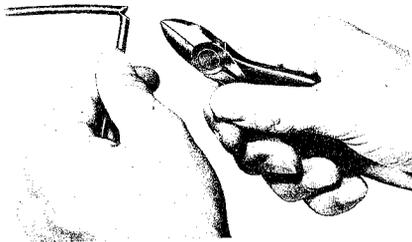

Fig. 5 — Skinning Jacketed Wire
**4. SKINNING CONDUCTORS (STATION WIRE, BLOCK WIRE, AND CABLE), FIG. 5, 6, 7, 8, AND 9**
- (1) Grasp the end of the wire with one hand. Cut into wire with diagonal pliers at approximately 4 inches from the end, deep enough to sever (2) conductors only. (Fig. 5).
(2) Grip the end of both conductors, as illustrated in Fig. 5, and pull at an approximately 45° angle to cable. Do not exert too much pressure on diagonal pliers to avoid cutting conductors. Rip approximately 6 in. of cable jacket.
(3) Release pliers and grasp both conductors with hand. Continue pulling until the desired length of conductors are exposed.
(4) Cut off end portion at point of initial cut in Step 1.